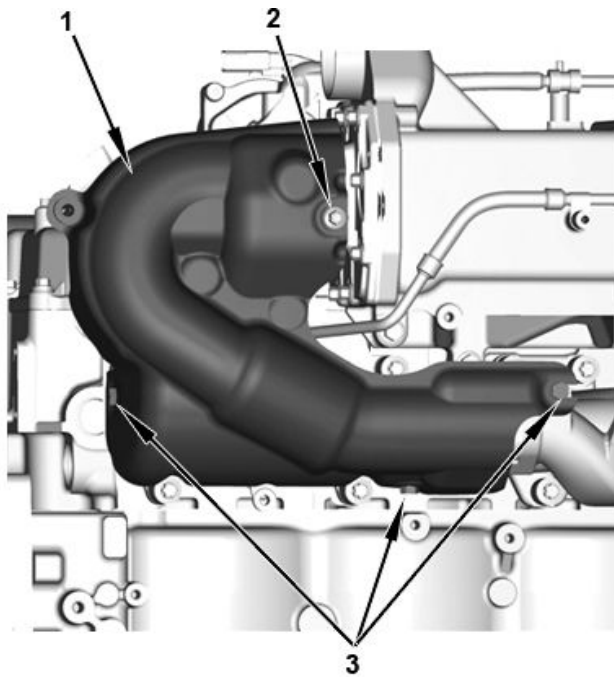
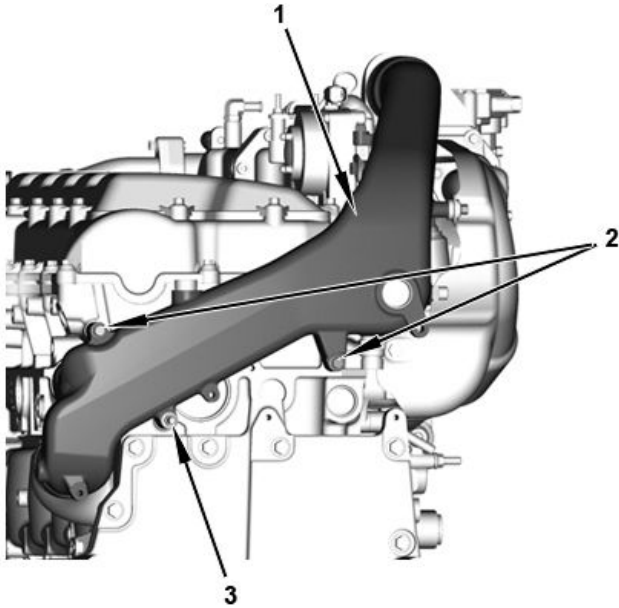

Figure 12. EGR Inlet Tube Heat Shield.
Figure 13. Coolant Manifold.
16. Remove EGR inlet tube heat shield (Figure 12, Item 1), remove one heat-resistant bolt (Figure 12, Item 2), and remove three bolts (Figure 12, Item 3).
17. Remove coolant manifold (Figure 13, Item 1), remove two bolts (Figure 13, Item 2), and one stud bolt (Figure 12, Item 3).